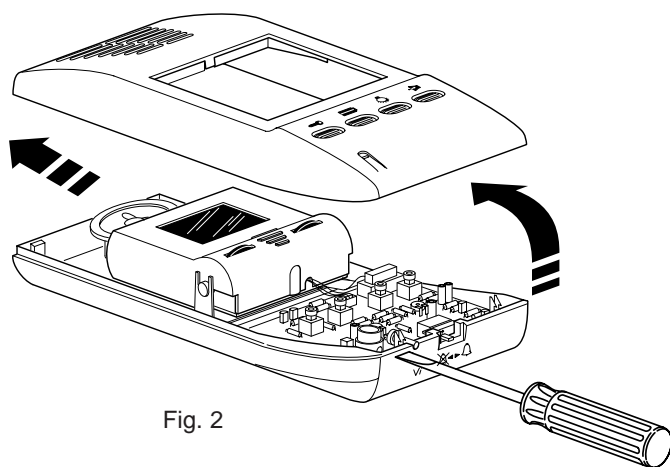

Fig. 2
- Fig. 2 - Open the monitor splitting the housing upper part from the lower one by inserting a screwdriver (see diagram) in the interphone slots till opening.